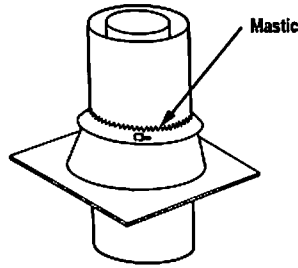

Figure 29
Step 8. The standard Superior roof flashing assemblies include a storm collar. Slide storm collar over outer flue, align with top surface of flashing, insert storm tab in slot, pull tight and bend tab back over slot. Seal storm collar to outer chimney with roof caulking or mastic around entire circumference of chimney. Also add extra roof caulking where storm collar meets flashing and to the tab/slot area to seal completely against water penetration (Figure 29). Check all joints very carefully to ensure no water intrusion can take place.